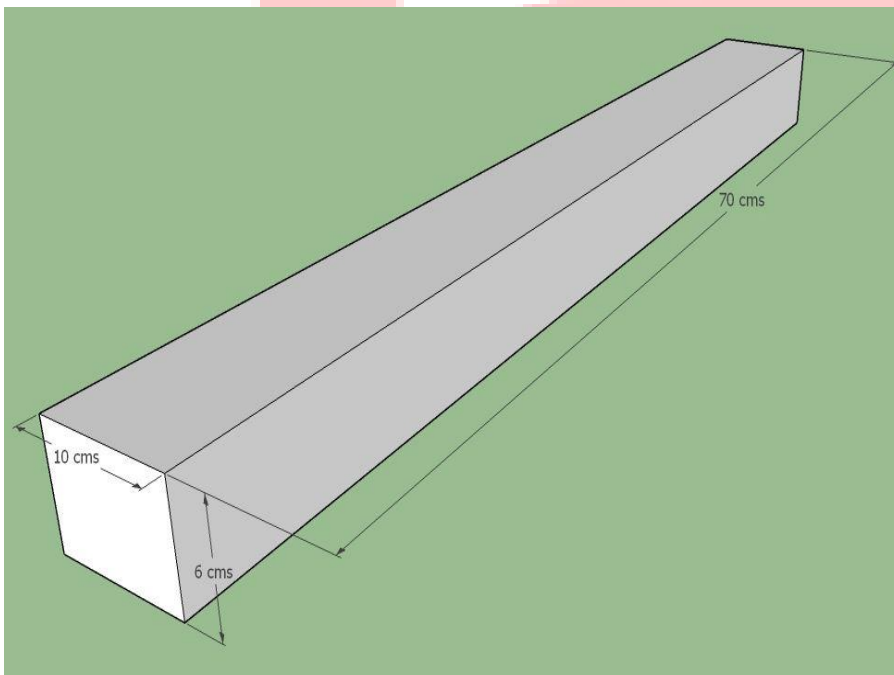

Figure 10: Bridge Cut-out
- Prepare **four** thermocol cut-outs of dimension **70cm x 10cm x 6cm** referred to as Bridge Cut-outs, as shown in Figure 10.